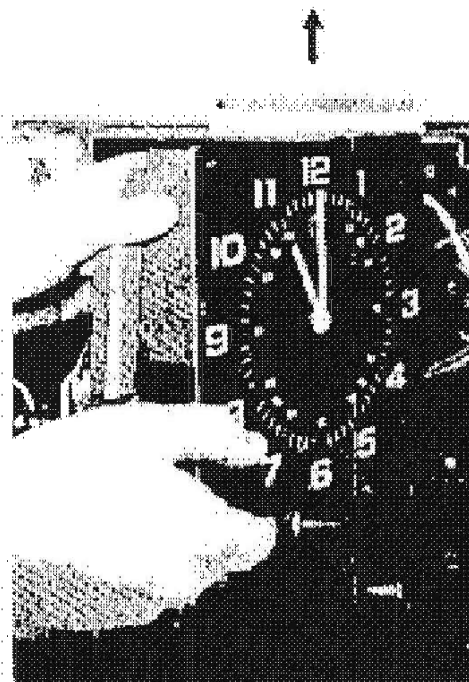

Figure 7
4. Lift type section out of its holding brackets as shown in Figure 7.
3. Remove the type section. (see figure 7, page 10)